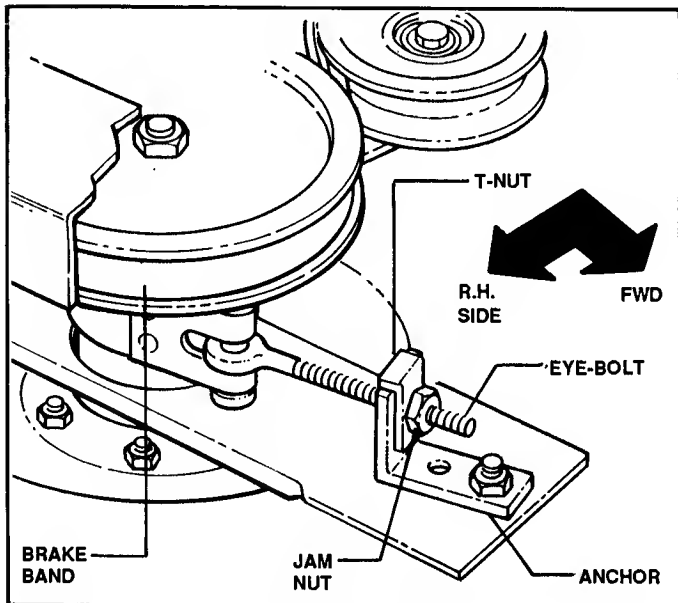

FIGURE 19
5. Tighten BRAKE BAND by loosening jam nut and turning T-nut on end of eyebolt, clockwise 1 to 2 turns, or until BRAKE BAND tightens. Make sure flanged lip on T-nut is positioned vertically to fit over top edge of anchor. See Figure 19.